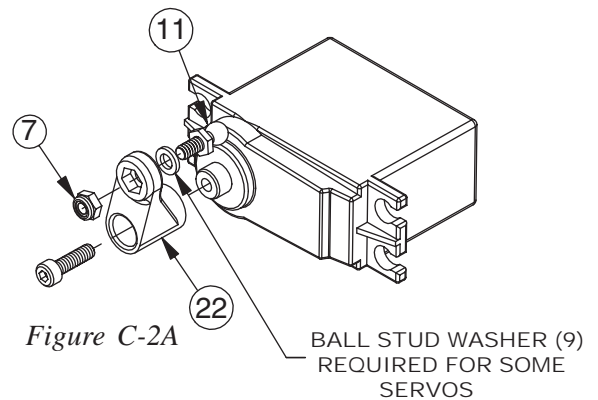
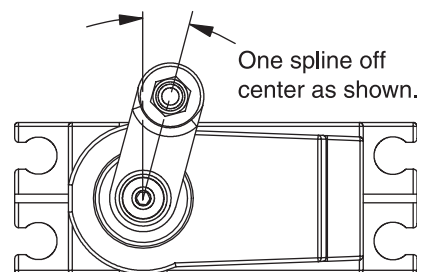

Figure C-2A
Figure C-2B
1. Using Table C-3C, on next page, determine which Servo Arm (22) is required for your servo. If your particular servo is not listed, try using the arm recommended for another servo made by the same manufacturer.
Some Servos may require the use of a Ball Stud Washer (9) placed behind the Ball Stud (11) for proper Servo Link alignment, as shown in Figure C-2A.
2. Insert a 4-40 Mini Locknut (7) into the hex area of the Servo Arm. Thread a 3/16" Ball Stud (11) through the hole in the Arm, into the Locknut, and tighten.
3. Plug the servo into the radio system's receiver (*not included*). Make sure that there is power to the receiver, and turn the transmitter on followed by the receiver. Be sure that the trim settings for the steering on your transmitter are set to the center. With the radio system still turned on, attach the servo arm to the output shaft so that the arm is one spline off center in the direction shown in Figure C-2B. Secure the arm with the servo arm screw supplied with the servo.